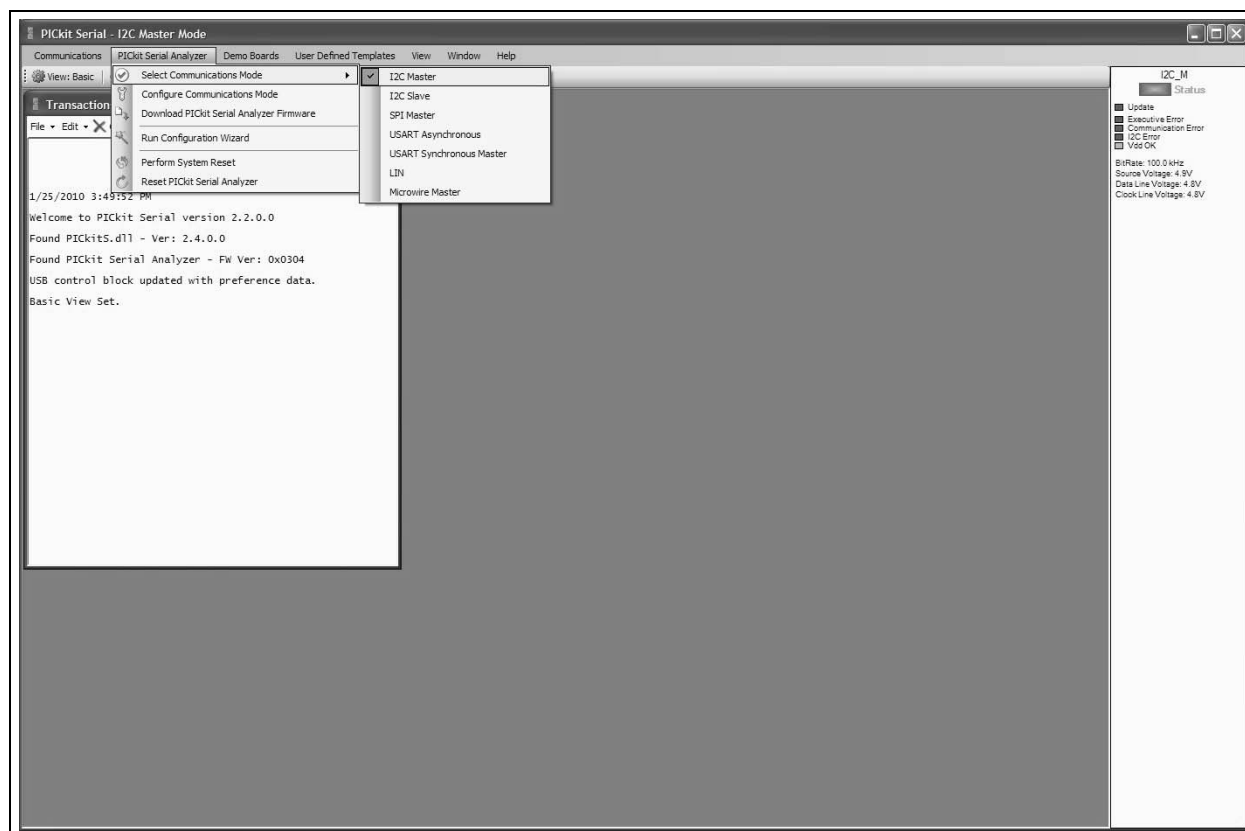

FIGURE 2-7: PICkit™ Serial Selecting Communications Mode.
We need to select the PICkit Serial Analyzer GUI to be in I2C Master mode. Figure 2-7 shows how to select the proper mode. Select PICkit Serial Analyzer -> Select Communications Mode -> I2C Master menu item (make sure the I2C Master item is checked).
5. Ensure the GUI is in Master I²C communication mode (see Figure 2-7).